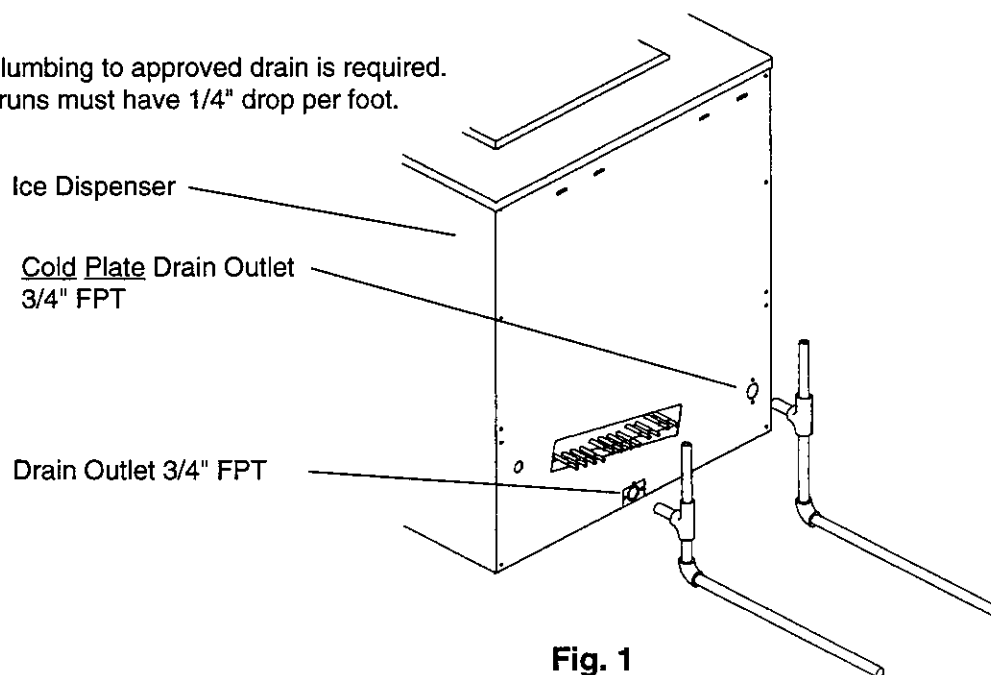

Fig. 1
4. DRAIN CONNECTION (Refer to Fig. 1)
- 2) All horizontal runs of drain pipe must have a 1/4 inch drop per foot to promote good drainage. See the Drain Connection diagram (Fig. 1).